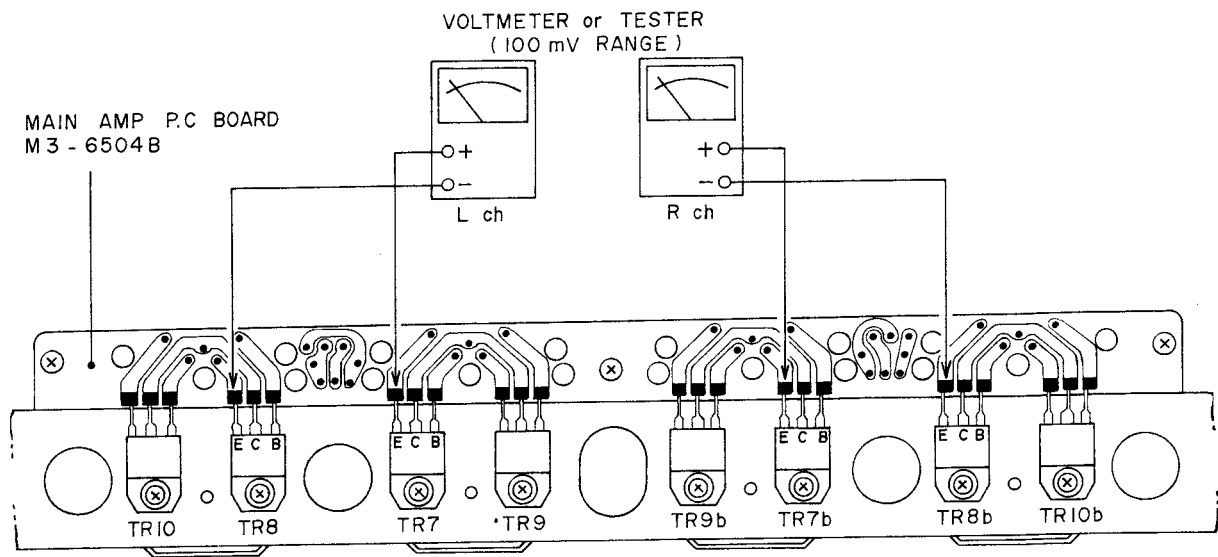

Fig. 26 Instrument Connection
1. IDLING CURRENT ADJUSTMENT (Refer to Figs. 26, 27)